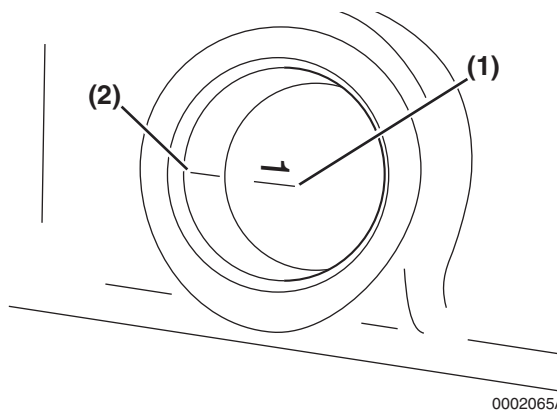
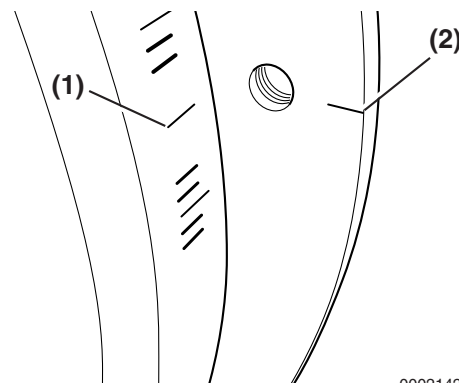
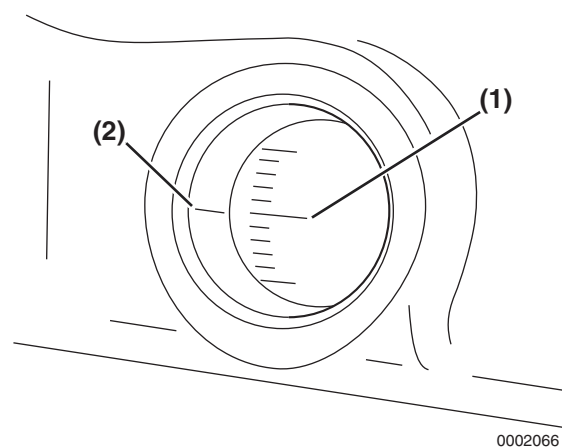

Figure 7-25
Figure 7-26
Figure 7-27
9. Highlight the timing reference mark on the flywheel housing (**Figure 7-25, (2)**) or engine back plate (**Figure 7-26, (2)**). Highlight the TDC (Top Dead Center) mark (**Figure 7-25, (1)**), (**Figure 7-26, (1)**) on the flywheel.
10. Highlight the target timing mark (**Figure 7-26, (1)**), (**Figure 7-27, (1)**) on the flywheel timing grid as determined in the *Fuel Injection Timing Chart* below.
18. Check the position of the flywheel target timing mark (**Figure 7-27, (1)**) on the flywheel grid in relation to the timing reference mark (**Figure 7-27, (2)**) on the flywheel housing or back plate. If the two marks are aligned, the fuel injection timing is correct. If the marks do not align, the fuel injection timing must be adjusted. See *Adjusting Fuel Injection Timing on page 7-23*.